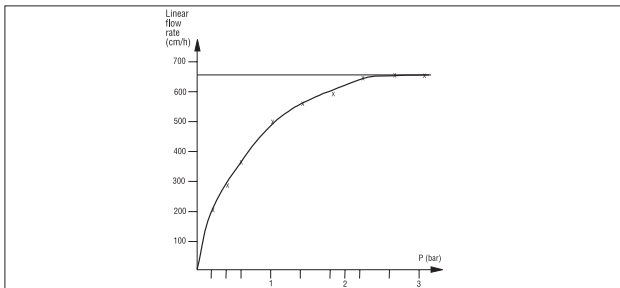

Figure 1. Pressure/flow rate curve for Sepharose 6 Fast Flow media.
Sepharose 6 Fast Flow based medium are easy to pack since their rigidity allows the use of high flow rates, see Figure 1. Four suitable types of packing methods are given:
6. Plot pressure against flow rate as indicated in Figure 1. The optimal packing flow rate/pressure is 70–100% of the maximum flow rate/pressure.